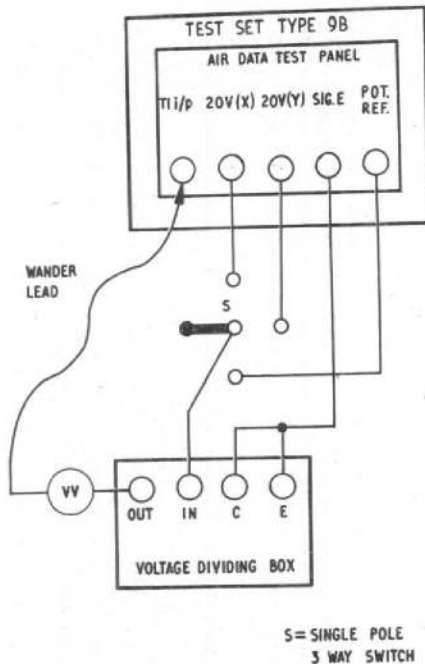

Fig. 1. Connections for subsidiary test equipment
1. The tests detailed in this appendix are additional to the standard serviceability tests (App. 2) and are necessary either when certain components are replaced (App. 5) or during fault-diagnosis (App. 3). Unless instructed to the contrary these tests are to be performed with the computer connected to the test set, Type 9B, Ref. No. 6C/2868, as shown in App. 2, fig. 1, and the dust cover removed; the procedures detailed in App. 2, up to and including self tests on test set, Type 9B, must all have been carried out. The tests are applicable to units modified up to and including mod. ADS/143.
(1) The force required to turn the gear train does not exceed 4 gm except in the case of the height gearbox (G3) (pre-mod. ADS/134) when the force should not exceed 3 gm.
(2) If the gear on axis 4 (G1, G3 or G5), axis 5 (G4) or axis 6 (G6 or G7) is held to prevent it moving, the force required to slip the clutch does not exceed 7 gm.
14. Before proceeding to the testing of individual gearboxes connect the computer to the test set, Type 9B as shown in App. 2, fig. 1, set S1 to OFF, S5 to OFF and T4 to 4450 (200 kt).
25. Ensure that the power has been switched on to the equipment for at least 15 min. then check the 20V balance. Remove the link between pin 25 of the gearbox tagboard and pin 25 of the gearbox interconnection tagboard and connect up subsidiary test equipment as shown in fig. 1. Connect the wander lead to pin 25 of the gearbox tagboard and switch the dividing box to 20V (X). Set the voltage dividing box to 7450 and check that the valve voltmeter registers a null. RV1 (Chap. 7, fig. 8) should be adjusted if necessary to achieve this condition.